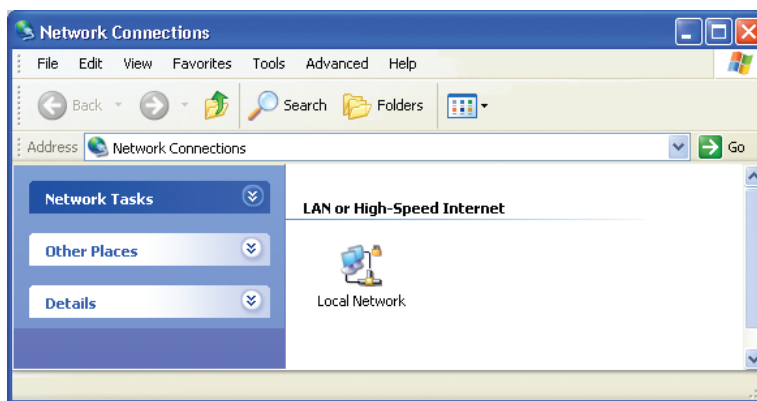

Figure 8-7: Network Connections
1. Click on **Start> Control Panel> Network Connections**. Right click on the Local Connection where the controller is connected (Figure 8-7).